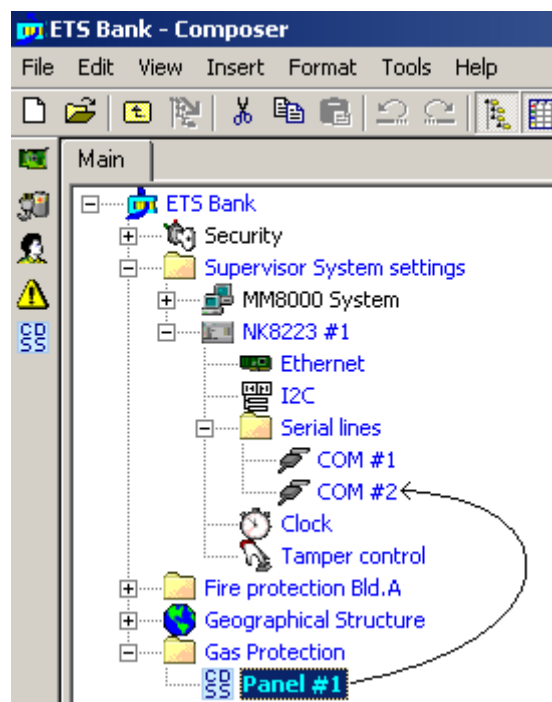

Fig. 16 Linking CDSS to the NK8000 network
3. Drag and drop the CDSS node to the network COM port (see Fig. 16).